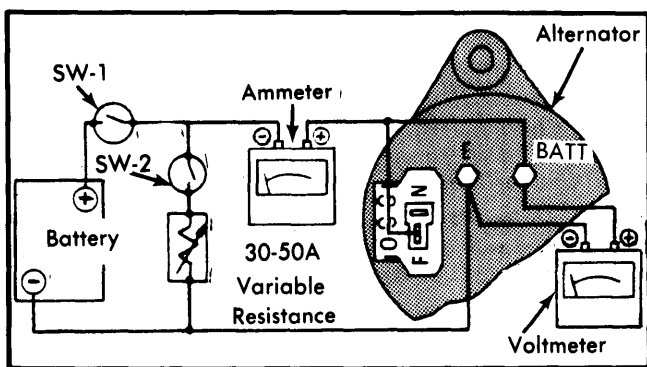

Fig. 4 Alternator Output Test Connections for Subaru
2) Make test connections using a 30-50 ampere variable resistor, battery, ammeter, and voltmeter as shown in Fig. 4. Operate alternator with switch "SW-1" closed. When alternator speed reaches approximately 800 RPM, set the variable resistor to maximum and turn on switch "SW-2". Increase alternator speed while maintaining a constant 14 volts by adjusting resistance. Read current at 2500 RPM and 5000 RPM. Readings should be 37-43 amperes at 2500 RPM and 48-54 at 5000 RPM.